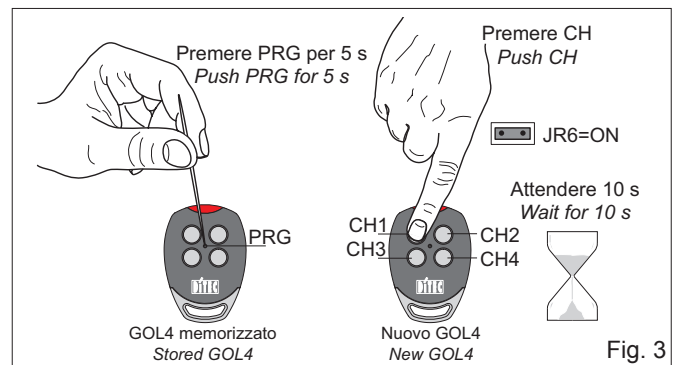

Fig. 3
5. MEMORIZZAZIONE A DISTANZA GOL4 (fig. 3)
5. GOL4 LONG DISTANCE MEMORIZATION (fig. 3)